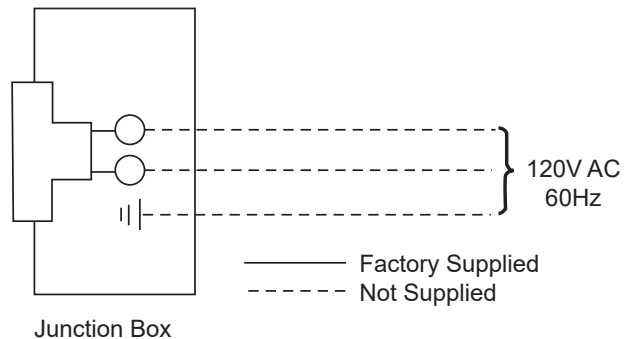

Figure 21 - Junction Box Wiring Diagram
3. The junction box cover has a factory installed “romex” style strain relief connector. After connecting the wires, route the wire leads through this connector. Refer to the wiring diagram in Figure 21.